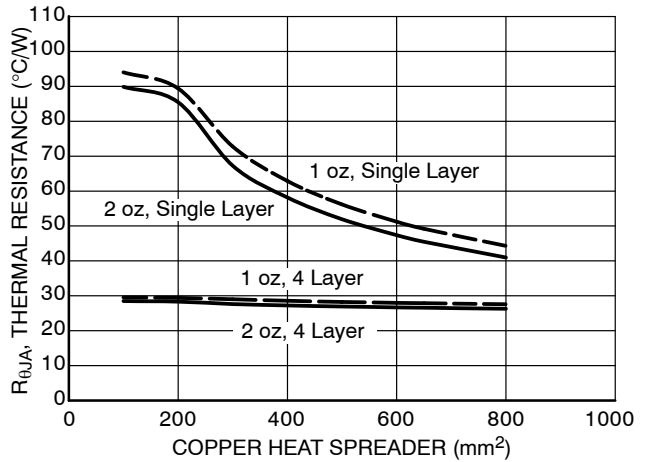

Figure 28. Thermal Resistance vs. PCB Copper Area
can dissipate up to 2.53 W for 1s0p PCB board and 4.49 W for 2s2p PCB board when the ambient temperature (TA) is 25°C. See Figure 28 for RθJA versus PCB area. The power dissipated by the NCV8774C can be calculated from the following equations: